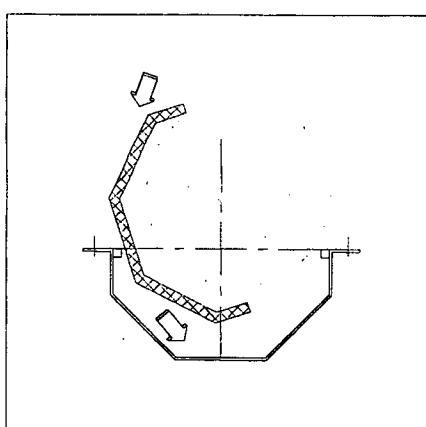

Figure 5.2e
7. Push the new liner onto the octagonal trough & octagonal lid, making sure the wear indicator strip is at the outside. It is important to secure the liner under the retainer blocks on each side. (Figure 5.2e & 5.2f).